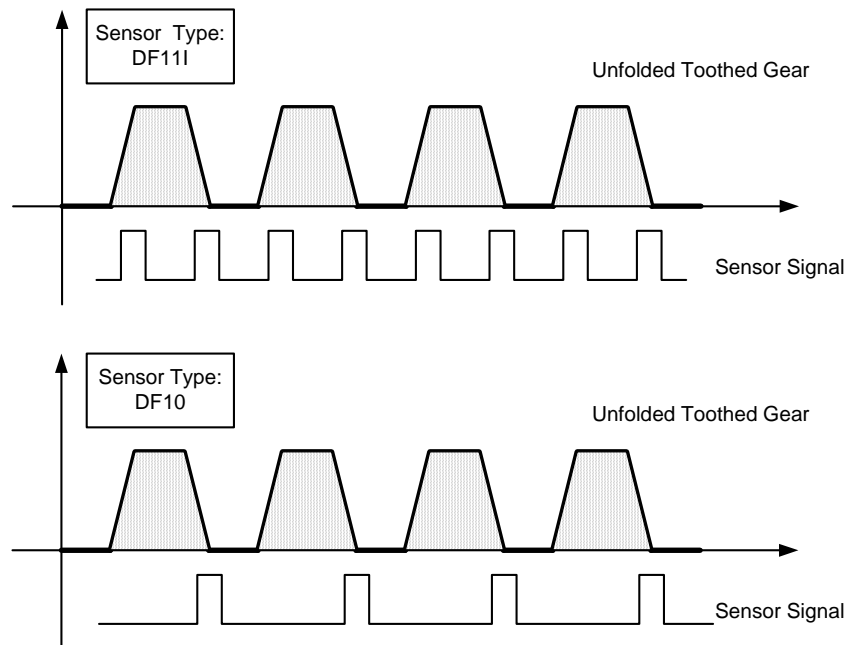

Fig. 6-5 Sensor Signal of a DF11I and a DF10 Speed Sensor
- with speed sensors of type DF11I, a PWM impulse is generated each time the edge of a tooth is detected (see Fig. 6-5)
- with speed sensors of type DF10, a PWM impulse is only generated if the 'trailing edge' of a tooth is detected (see Fig. 6-5)